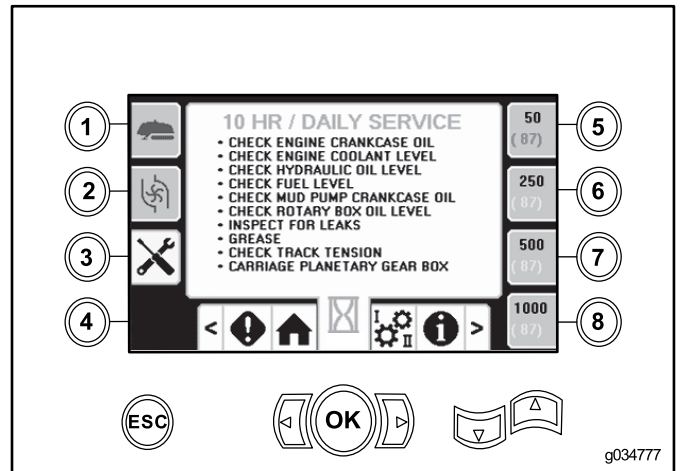

Figure 43
- Button 3—10-hour/Daily (Figure 43)